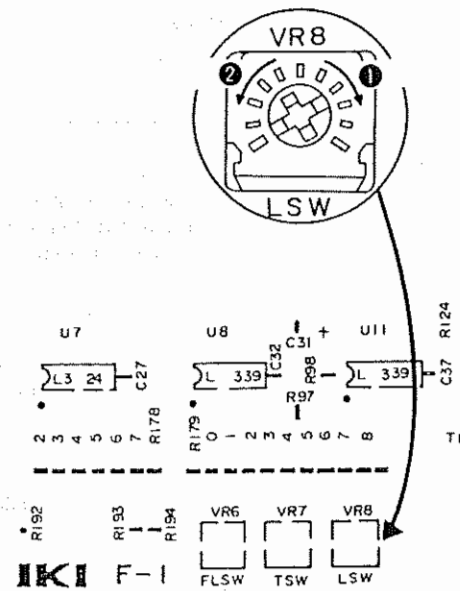

Fig. 3-6
- Turn VR7 (TSW) shown in Fig. 3-6 clockwise to increase the stroke, or turn it counterclockwise to decrease the stroke. Be careful not to turn it excessively, otherwise the thread trimmer is actuated immediately when the pedal is set in its neutral position or the thread trimmer fails to operate even when the back part of the pedal is depressed.
- In a version with the AK-31, depressing the back part of the pedal raises the presser foot just as with the knee switch. Turn VR6 (FLSW) shown in Fig. 3-6 clockwise to increase the stroke for actuating the Auto-lifter, or turn it counterclockwise to decrease the stroke. (Be careful not to turn it excessively, otherwise the Auto-lifter will act as if the knee switch were kept ON when the pedal is returned to its neutral position.)